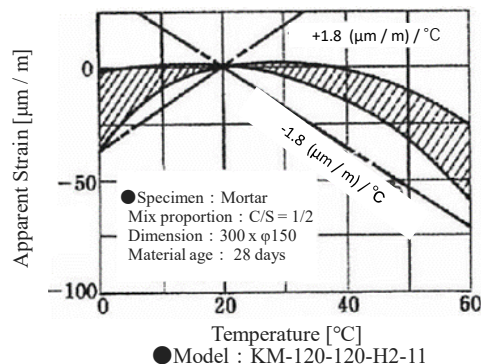

Figure1 : Thermally-induced apparent strain
- (1) The heat dissipation ability of the embedded gage is much lower than general foil gages, so less than 2 V excitation voltage is recommended.
- (2) The gage factor is the real measuring value which was obtained by the embedded gage in the mortar, so it will be different with the various embedding method and the mix proportion of the specimen.
- (3) In case of multiple points measurement, the dummy gage in common should be avoided, due to the switching bringing the large movement with the zero balance. If the unembedded gage is used as the dummy, the measuring error will be occurred.
- (4) The characteristic of the temperature apparent strain will be changed with the different mix proportion of the specimen and the curing condition. The expansion coefficient of the example characteristic of the mortar specimen in Figure 1. is approximately $12 \times 10^{-6} / ^\circ\text{C}$.